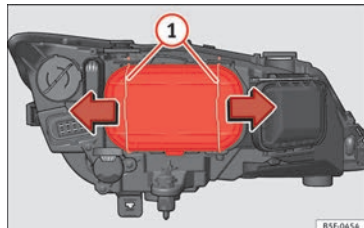

Fig. 103 Dipped beam headlights.
- Move the loops » Fig. 103 ① in the direction of the arrow and remove the cover.